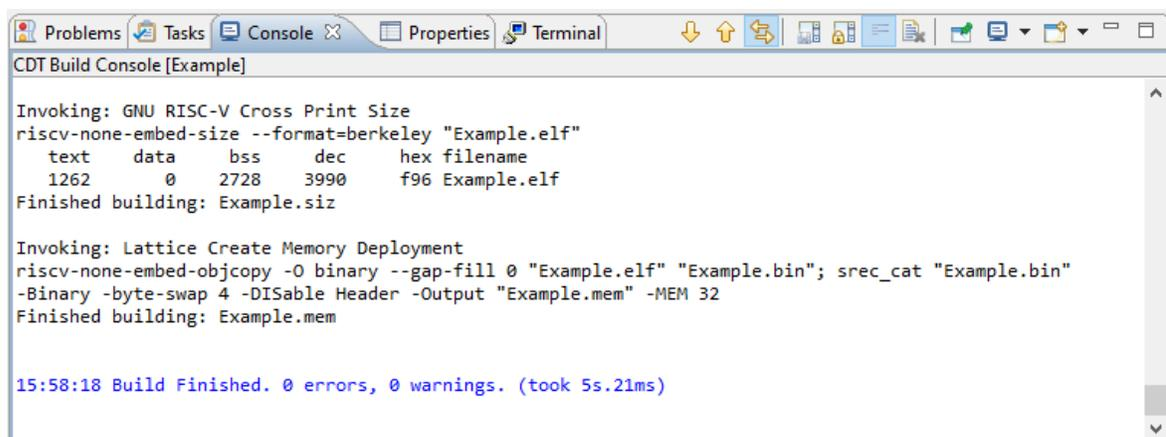

Figure 3.29. Build Result of C/C++ Project
4. The results of the build command are displayed in the **Console** view (Figure 3.29).